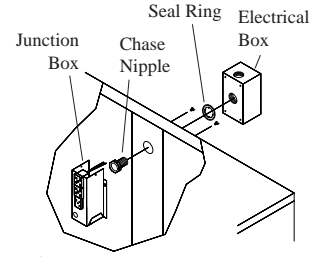

Fig. 5
• **Install weatherproof switch box.** Located inside the unit in a plastic bag is a switch box and cover, a chase nipple, a seal ring and a toggle switch. Remove the electrical junction box (Fig. 5) which is mounted on the inside of the center panel. From inside the unit, insert the chase nipple through the electrical access hole. Slide the seal ring over the chase nipple. Mount the switch box to the outside of the unit by threading the chase nipple into the switch box. Run the three switch leads through the nipple and into the switch box and reinstall the junction box. Connect the green ground lead to the ground screw in the switch box.